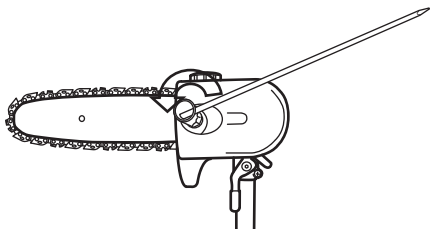

Fig. 35a
3. Loosen locking nut (D3) with the socket wrench (E6) anticlockwise and remove it together with the spring washer (D4) and cover (D2). (See Fig. 35a, 35b)